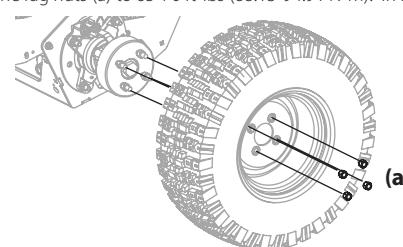

Figure 31
1. With the tires on the ground, loosen, but do not remove the four lug nuts (a). See Figure 31.